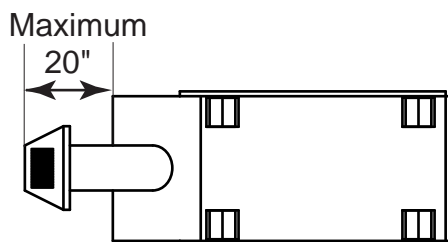
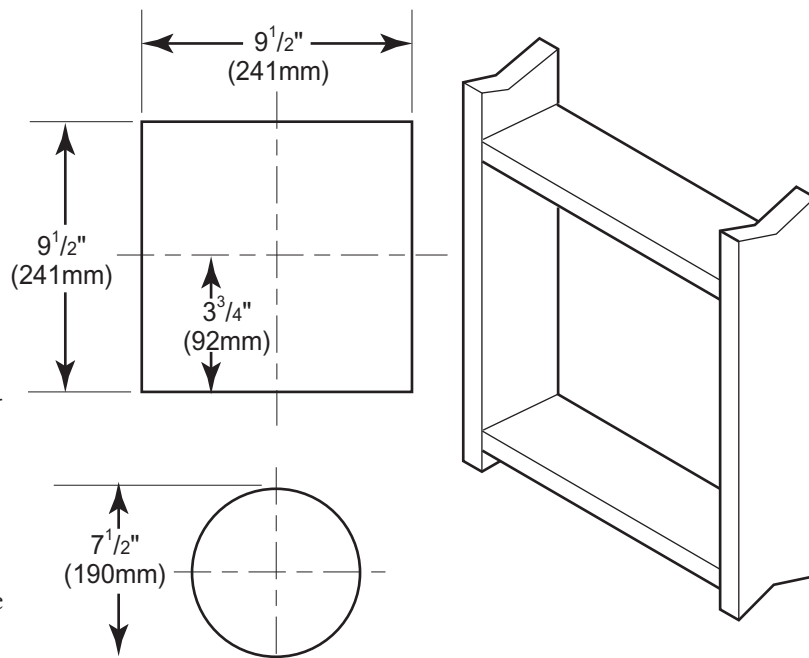
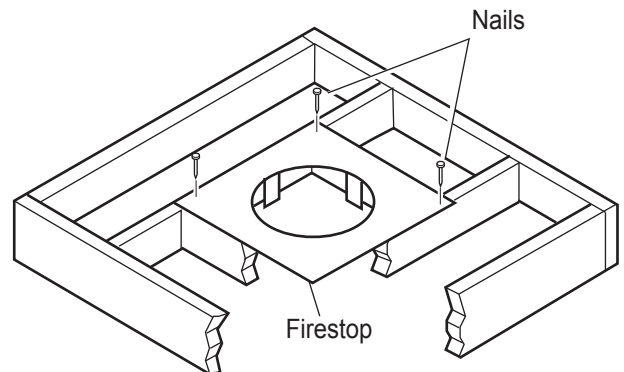
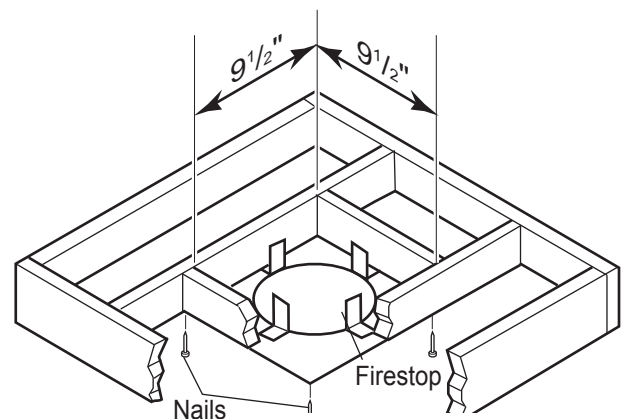

Figure 11 - Rear Vent Application, Maximum Horizontal Distance
Figure 12 - Vent Opening Requirements
Figure 28- If area above is a room, install firestop above framed hole as shown
Figure 29 - If area above is not a room, install firestop below framed hole as shown
- The maximum horizontal distance between the rear of the appliance and the outside of termination is 20" (508 mm). See Figure 11.
1. Locate and cut the vent opening in the wall. For combustible walls first frame in opening. See Figure 11.
Combustible Walls: Cut a 9 $\frac{1}{2}$ " H x 9 $\frac{1}{2}$ " W (241mm x 241mm) hole through the exterior wall and frame as shown. See Figure 12.
3. Attach vent pipe assembly to the fireplace. Set fireplace in front of its permanent location to insure minimum clearances. Mark the wall for a 9 $\frac{1}{2}$ "H x 9 $\frac{1}{2}$ "W (241mm x 241mm) rectangle hole (for noncombustible material such as masonry block or concrete, a 7 $\frac{1}{2}$ " [190mm] diameter hole is acceptable). See Figure 11. The center of the hole should line up with the center line of the horizontal rigid vent pipe end. Be sure to allow for minimum rise. Cut a $\frac{1}{2}$ "x $\frac{1}{2}$ " (241mm X 241mm) rectangle hole through combustible exterior wall (7 $\frac{1}{2}$ " [190mm] diameter hole if noncombustible). Frame as necessary. Allow $\frac{1}{4}$ " minimum rise per foot. See Figure 12.
1. Cut a 9 $\frac{1}{2}$ " (241mm) square hole in the ceiling using the locating hole as a center point. The opening should be framed to 9 $\frac{1}{2}$ "x9 $\frac{1}{2}$ " (241 mm x 241mm) inside dimensions as shown in *Figure 12*, page 17 using framing lumber the same size as the ceiling joist. If the area above the ceiling is an insulated ceiling or a room, nail firestop from the top side. This prevents loose insulation from falling into the required clearance space. See *Figure 28*. Otherwise, install firestop below the framed hole. The firestop should be installed with no less than three nails per side. See *Figure 29*.
3. Cut a hole in the roof using the locating hole as a center point. (Cover any exposed open vent pipes before cutting hole in roof). The 9 $\frac{1}{2}$ "x9 $\frac{1}{2}$ " (241mm x 241mm) hole must be measured on the horizontal. Actual length may be larger depending on the pitch of the roof. There must be a 1" minimum clearance from the vent pipe to combustible materials. (Insulation should be considered a combustible material). Frame the opening as shown in *Figure 12* on page 17.